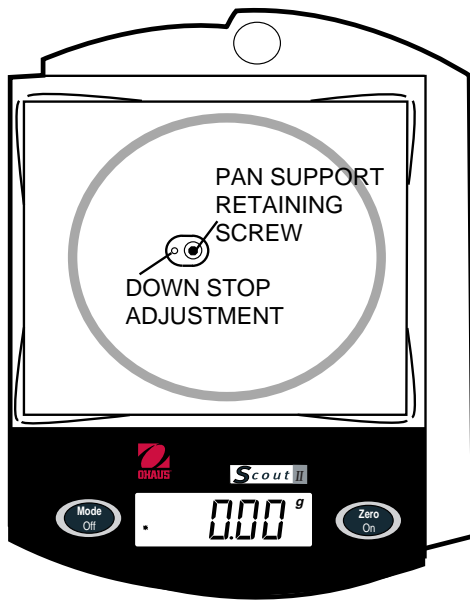
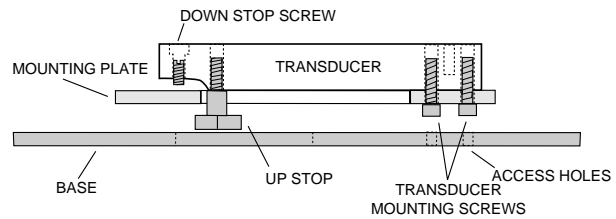

Figure 4-4. Down Stop Adjustment Location.
Figure 4-5. Transducer Cross Sectional View.
1. Place a mass equal to the maximum capacity of the balance on the center of the Pan (6) and note the reading.
Use the following procedure to adjust the Downstop Screw (21) on the Transducer (8) so that the Pan (6) "bottoms out" when the weight on the Pan (6) is 150% of the balance's capacity. Refer to Figures 4-4 and 4-5.
1. Place a mass on the Pan (6) equal to 100% of the balance capacity.
2. Gently press down on the Pan (6) and verify that there is downward movement.
3. Place a mass on the Pan (6) equal to 150% balance capacity .
4. Gently press down on the Pan (6) and check for downward movement. If the Pan (6) does not move downward, the Down Stop (21) adjustment is correct. Proceed to step 7.
5. If the Pan (6) moves down when pressed, remove the Pan (6) , rotate the Downstop Screw (21) 1/8 turn clockwise using a 5/64" Allen wrench. See Figure 4-4 for Down Stop location and Figure 4-5 which is cross sectional view of the Transducer (8).
7. Repeat the entire procedure to verify that with 100% capacity on the Pan (6), it moves down when pressed, and with 150% capacity on the Pan (6), it does not move when pressed.